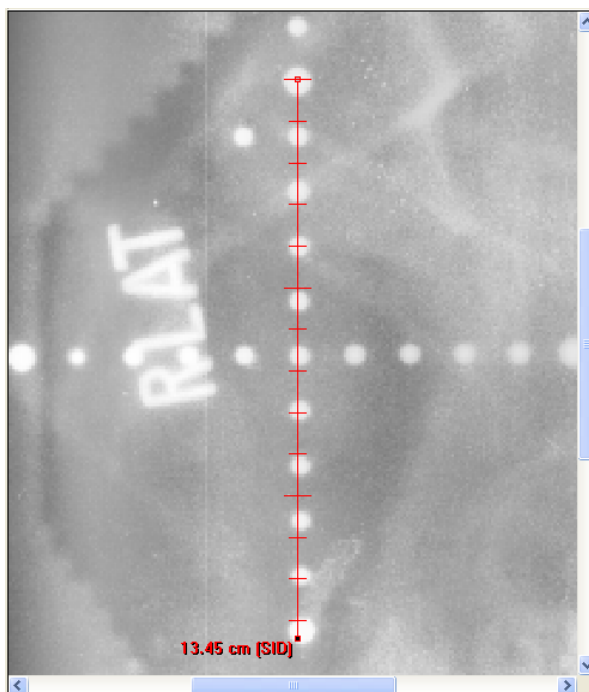

Figure 30: Straight Line Drawn with Ruler Tool-Imported Data Shown
3. Click , then click a large BB on the image and drag the mouse in a straight line to the next large BB. Refer to Figure 30.
Notice in Figure 30 that the measurement is for SID. This indicates that the pixel size type is SID, and that the image was imported with a defined pixel size.